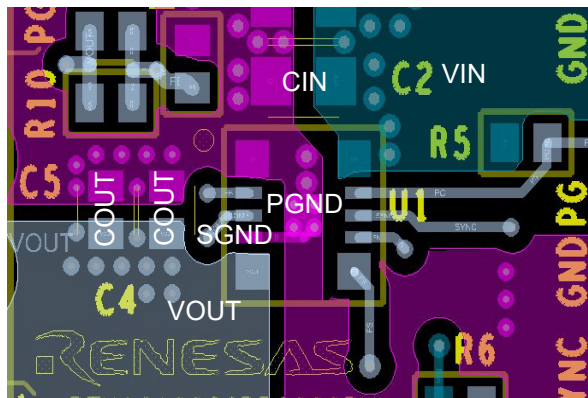
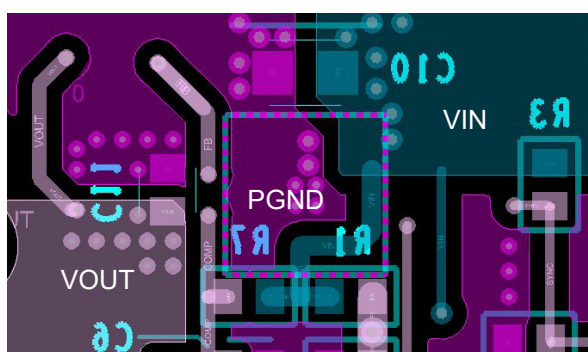

Figure 4. Layout Example - Top Layer
Figure 5. Layout Example - Bottom Layer
- Place the input ceramic capacitors as close as possible to the module input. These ceramic capacitors minimize the high frequency noise by reducing the parasitic inductance of the power loop. Proper placement of these capacitors not only leads to less PHASE node spikes and ringing, but also minimizes the switching noise coupled to the module. Renesas recommends using dielectric X5R or better with a minimum total capacitance of 22 $\mu$ F at the module input. A layout example is shown in Figure 4 and Figure 5.